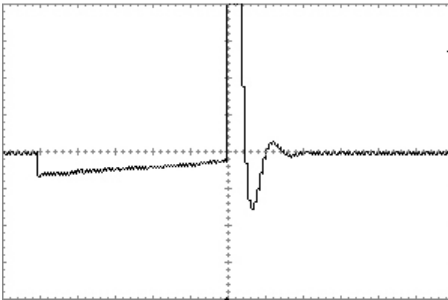

Fig.10
- ♦ **Dmp Sc2** (moderate damping) (see Fig.10);